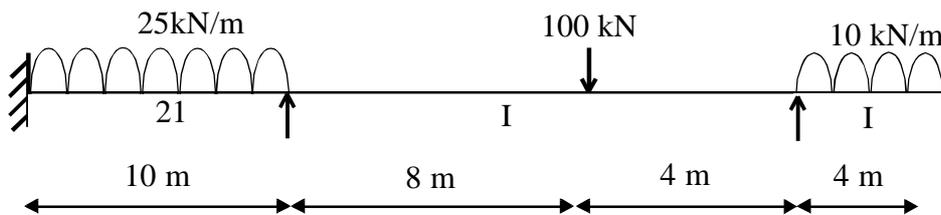

Figure. 1
9. Analyse the continuous beam shown in Figure.1 by flexibility method and draw the bending moment diagram.